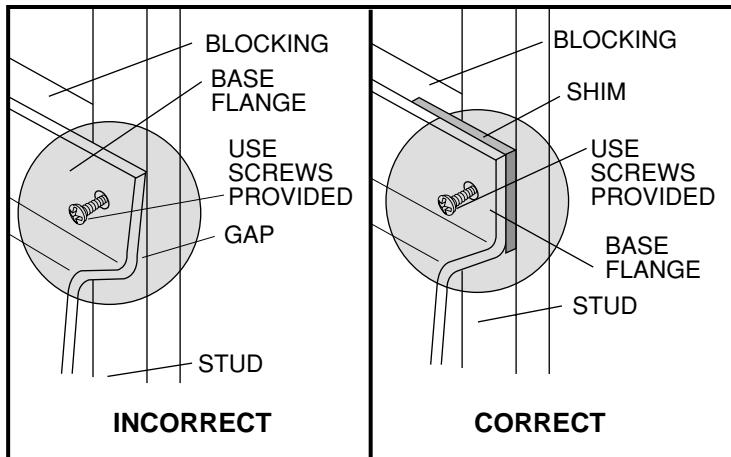

Figure 2B
**NOTE: If there is any gap between base flange and stud or blocking, shims MUST be used to prevent distortion or cracking of the flange. (See Figure 2B.)**